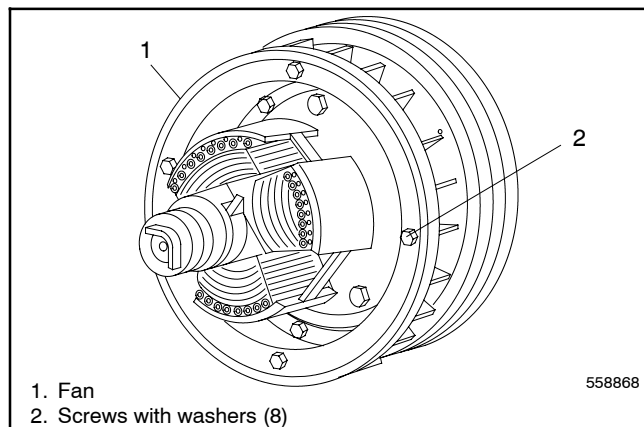

Figure 4-12 Fan Removal
16. Remove the eight screws and washers attaching the alternator fan to the rotor. See Figure 4-12.
17. Remove the alternator fan. See Figure 4-12.